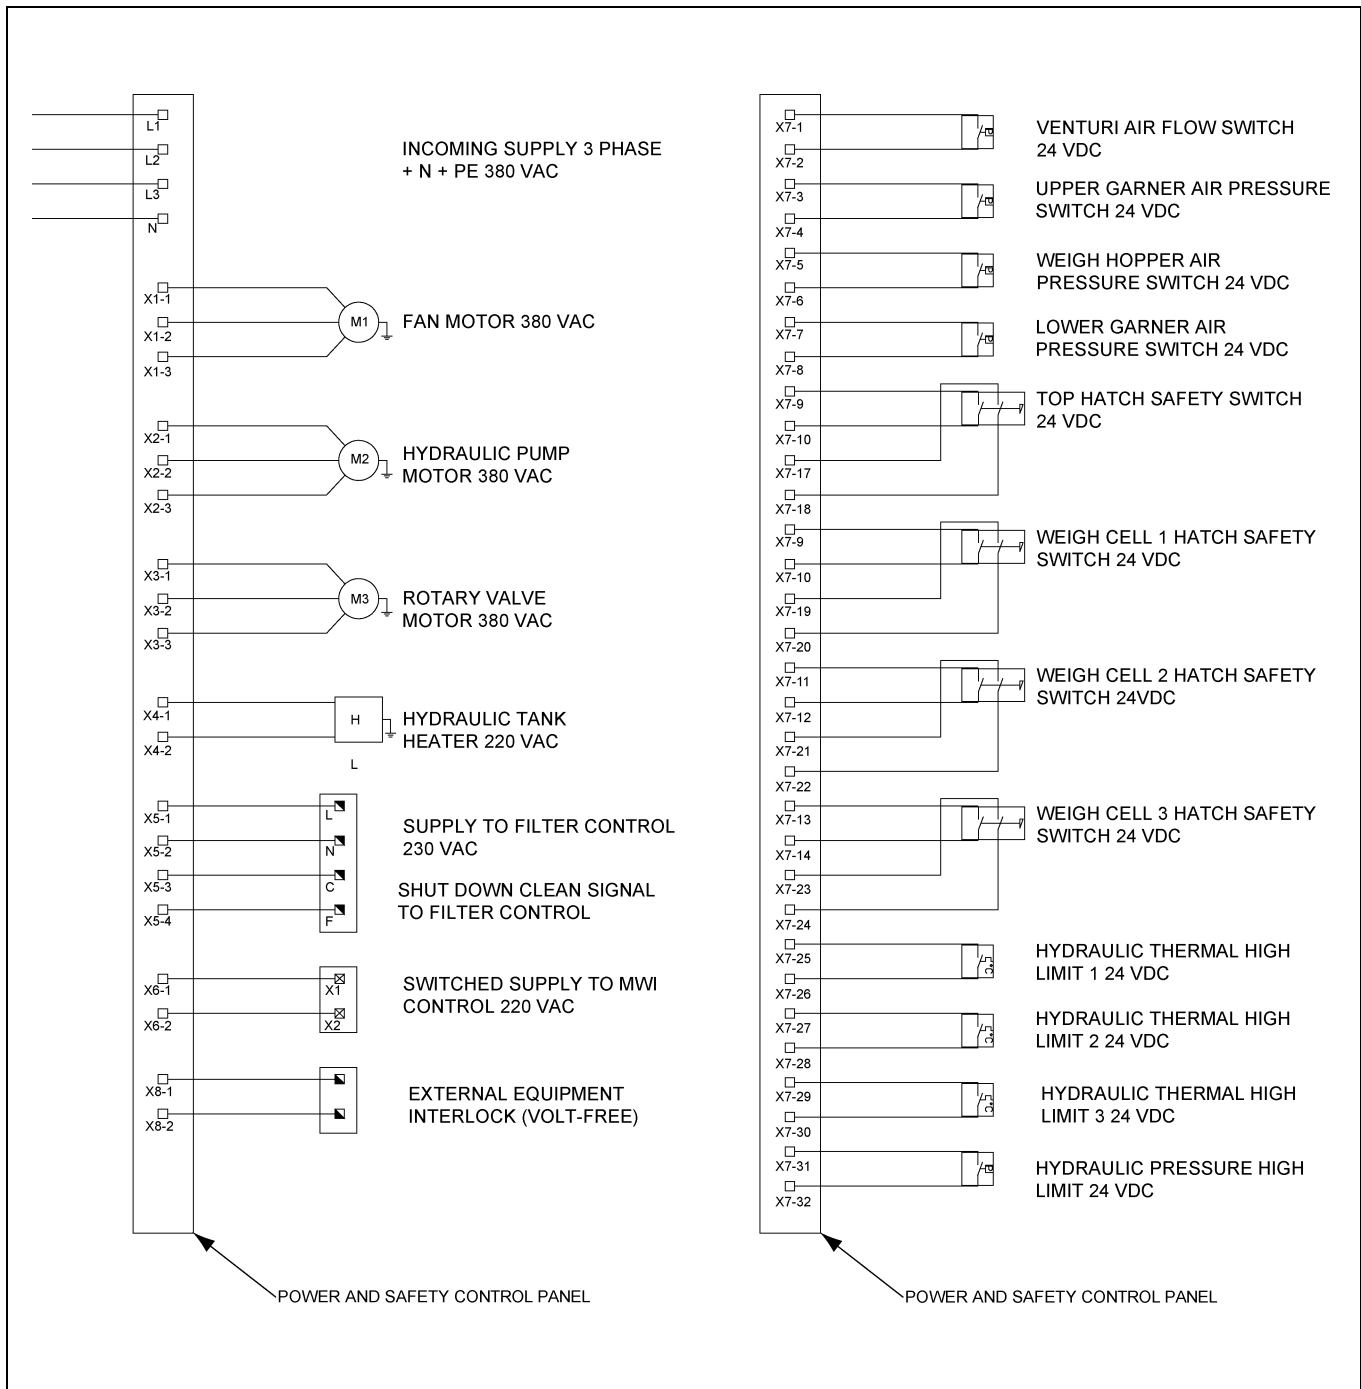

Figure 2U Power and Safety Panel Terminals
a. Refer to Figure 2U on Page 31 and make connections from the Power and Safety Panel to: